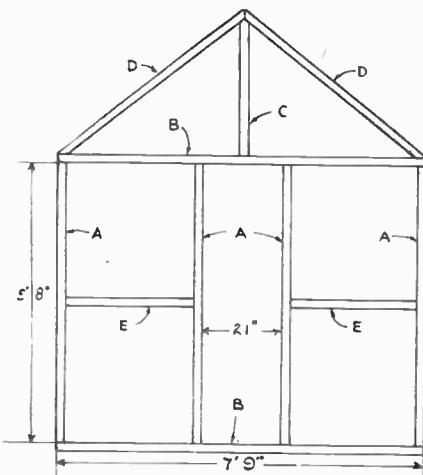
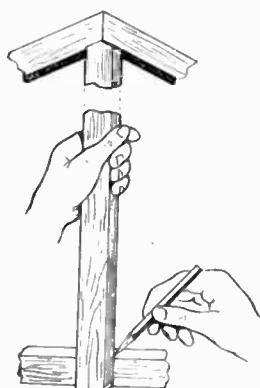

Fig. 9—Parts forming the rear frame
Fig. 4—Fitting centre upright to exact length
Nail the eight  $3\frac{1}{2}$  in. pieces in position. Drill the two pieces (D) to take 3 in. nails, two at each end, and fit in position on the frame. Finally fit the centre piece (C). This should first be held in position and marked out as shown in Fig. 4. The front frame is now complete ready for the asbestos, the fitting of which is described later.
The position of the pieces forming the rear section are shown in Fig. 9. The two (D) pieces are identical to those on the front section and if the previous instructions have been followed they will be ready cut. The (C) piece is also the same and should be marked out and cut as shown in Fig. 4. Ensure that the other pieces are right for length and that the ends are square. The rear section is then ready for assembling.